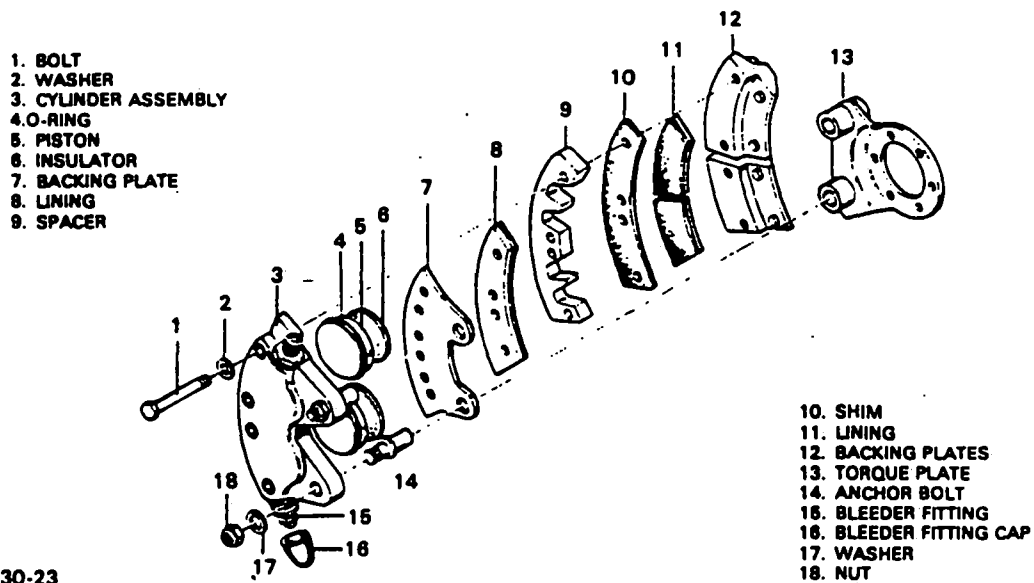

Figure 7-22. Wheel Brake Assembly
**7-63. REMOVAL AND DISASSEMBLY OF WHEEL BRAKE ASSEMBLY. (Refer to Figure 7-22.)**
- b. Remove the four cap bolts (1) that join the brake cylinder housing (3) and lining back plate assemblies (12). Remove the back plates from between the brake disc and wheel.
- c. Slide the brake cylinder housing from the torque plate (13).
- d. Slide the pressure plate (7) and lining (8) off the anchor bolts (14) of the cylinder housing (3).
- e. The pistons (5) may be removed by injecting low air pressure in the cylinder fluid inlet and forcing them from the housings.
- f. The lining (8 and 11) can be removed by prying it from the pressure plate (7) and back plates (12).
**7-65. ASSEMBLY AND INSTALLATION OF WHEEL BRAKE ASSEMBLY. (Refer to Figure 7-22.)**